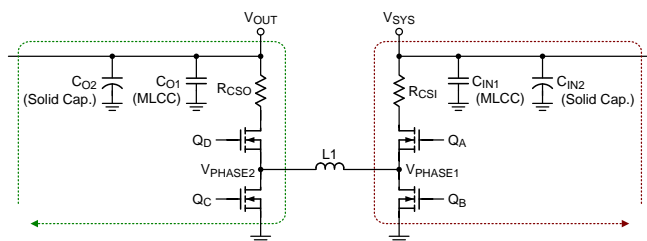

Figure 6. Recommended PCB Layout of the Power Stage
- ▶ Figure 6 is a recommended placement of the PWM Buck-Boost power-stage. Two critical current-loop paths "from $C_{IN1} \rightarrow R_{CSI} \rightarrow Q_A \rightarrow Q_B$ to C_{IN1} " and "from $C_{O1} \rightarrow R_{CSO} \rightarrow Q_D \rightarrow Q_C$ to C_{O1} " must be as short as possible to minimize the switching noise at CSIN/PCIP, PCIN, CSIP, CSON/PCOP, PCON, CSOP, PHASE1, and PHASE2 pins. The short paths also reduce radiated EMI. It's necessary to use an MLCC ($10\mu\text{F}/50\text{V}$, X5R/X7R) for the input capacitor (C_{IN1}) and output capacitor (C_{O1}). For reducing input and output voltage ripples during heavy load operation, it is recommended to add more MLCCs or solid input and output capacitors. To improve heat dissipation, increase the PCB areas for Drains of high-side and low-side MOSFETs.